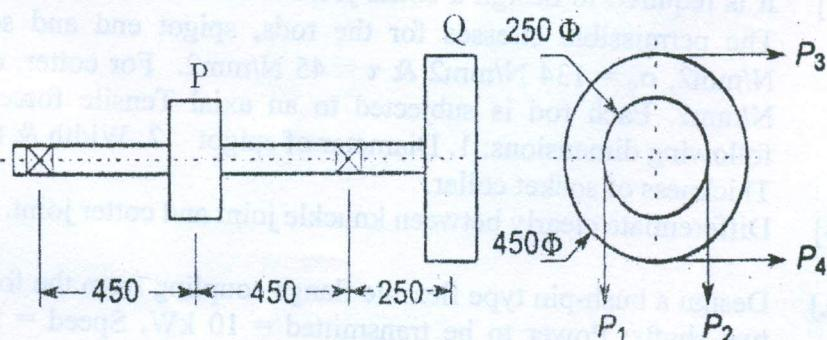

Fig.1
- Q.5** A line shaft supporting two pulleys P and Q as shown in figure 1. Power is supplied to the Shaft by means of a vertical belt on pulley P, which is then transmitted to pulley Q carrying belt as shown. The ratio of belt tensions on tight side and loose side 3:1. The maximum tension in either belt is limited to 2700 N. The permissible stress for 40C8 shaft material is 85.5 N/mm². Take the values for K = 1.5. Design the shaft According to A.S.M.E code. [10]